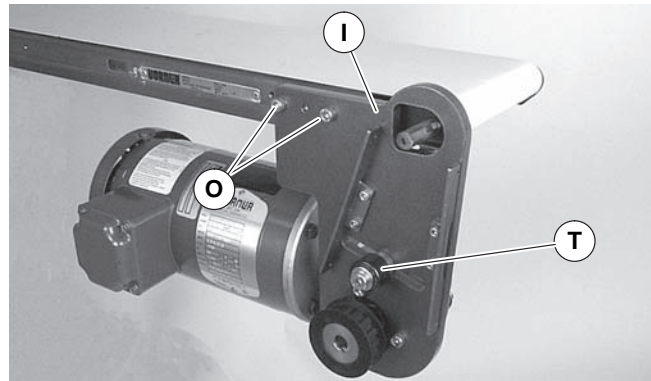
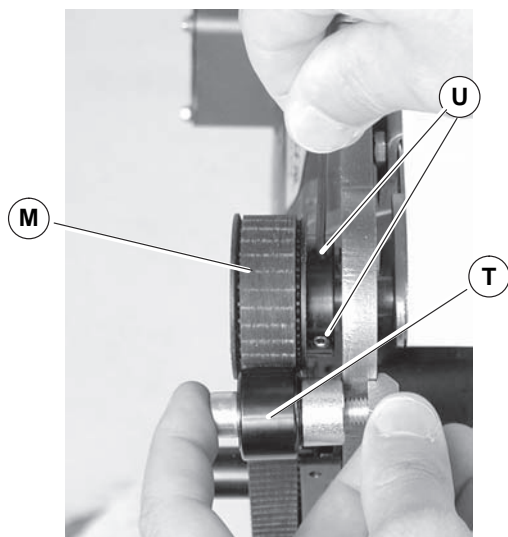

Figure 13
Figure 15
- Attach mounting assembly (Figure 13, item I) with screws (O). Tighten to 80 in-lb (9 N-m).
- Wrap timing belt (P) around driven pulley (M) and drive pulley (J). Install driven pulley (M) onto conveyor shaft.
8. Remove cam bearing and spacer (Figure 13, item T). Place the cam bearing and spacer (Figure 15, item T) next to the driven pulley (M). Ensure the flanges of the driven pulley are aligned with the cam bearing. Tighten driven pulley set screws (U). This will allow for proper belt alignment while conveyor is in use. Replace cam bearing and spacer (T).